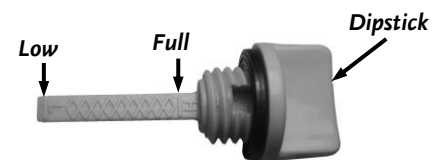

Figure 9
3. Continue adding a few ounces of oil at a time, until the oil reaches the Full line on the Dipstick (**Figure 9**). Be careful not to overfill.